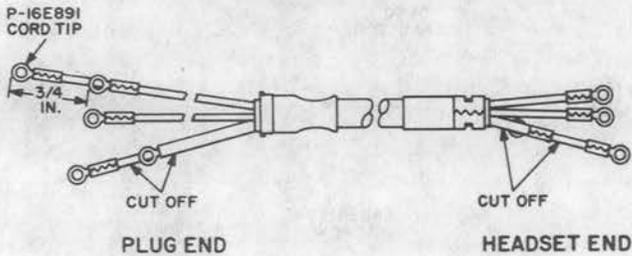

Fig. 11—1026A Headset Connecting Diagram
- (6) Replace cord and connect as shown in Fig. 11.
- (7) Reassemble the parts in the reverse order of removal.